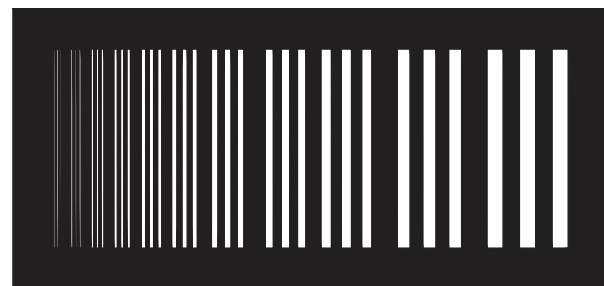
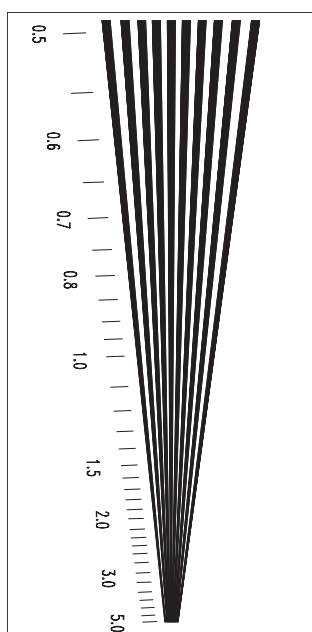

Fig B-3. A typical line pair gauge, 0.5 to 5.0 LP/mm
Fig B-4. Convergence style line pair gauge, 0.5 to 5.0 LP/mm
Two versions are shown. Fig B-3 has individual groups, of line-pairs. These are arranged in ten steps, 0.5LP/mm to 5.0LP/mm. Fig B-4 has lines converging to a point. Calibration marks are provided to indicate the equivalent line-pair resolution.
Many other versions are available. The type of pattern and material used depends on the specific test required. Common types are similar to fig B-3, or B-4. The line-pair pattern is made from 0.1mm lead for normal use.
- To avoid interaction with grid lines, attach the gauge (Fig B-3) so it is rotated approximately 25–45 degrees. (On some CCD TV cameras, this also avoids interaction between pixels.)